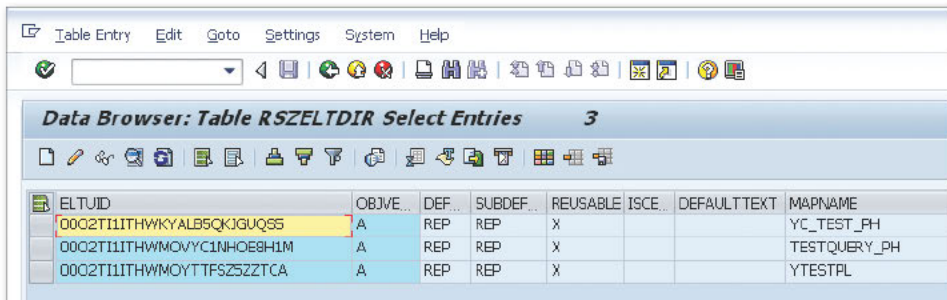

Figure 2 List of Query Technical Names
3. The screen shown in Figure 2 appears, showing the QUERY TECHNICAL names in the ELTUID column. Prepare the list of queries that need to be checked for BY OLE DB FOR OLAP by copying the ELTUIDs from the table contents into notepad.